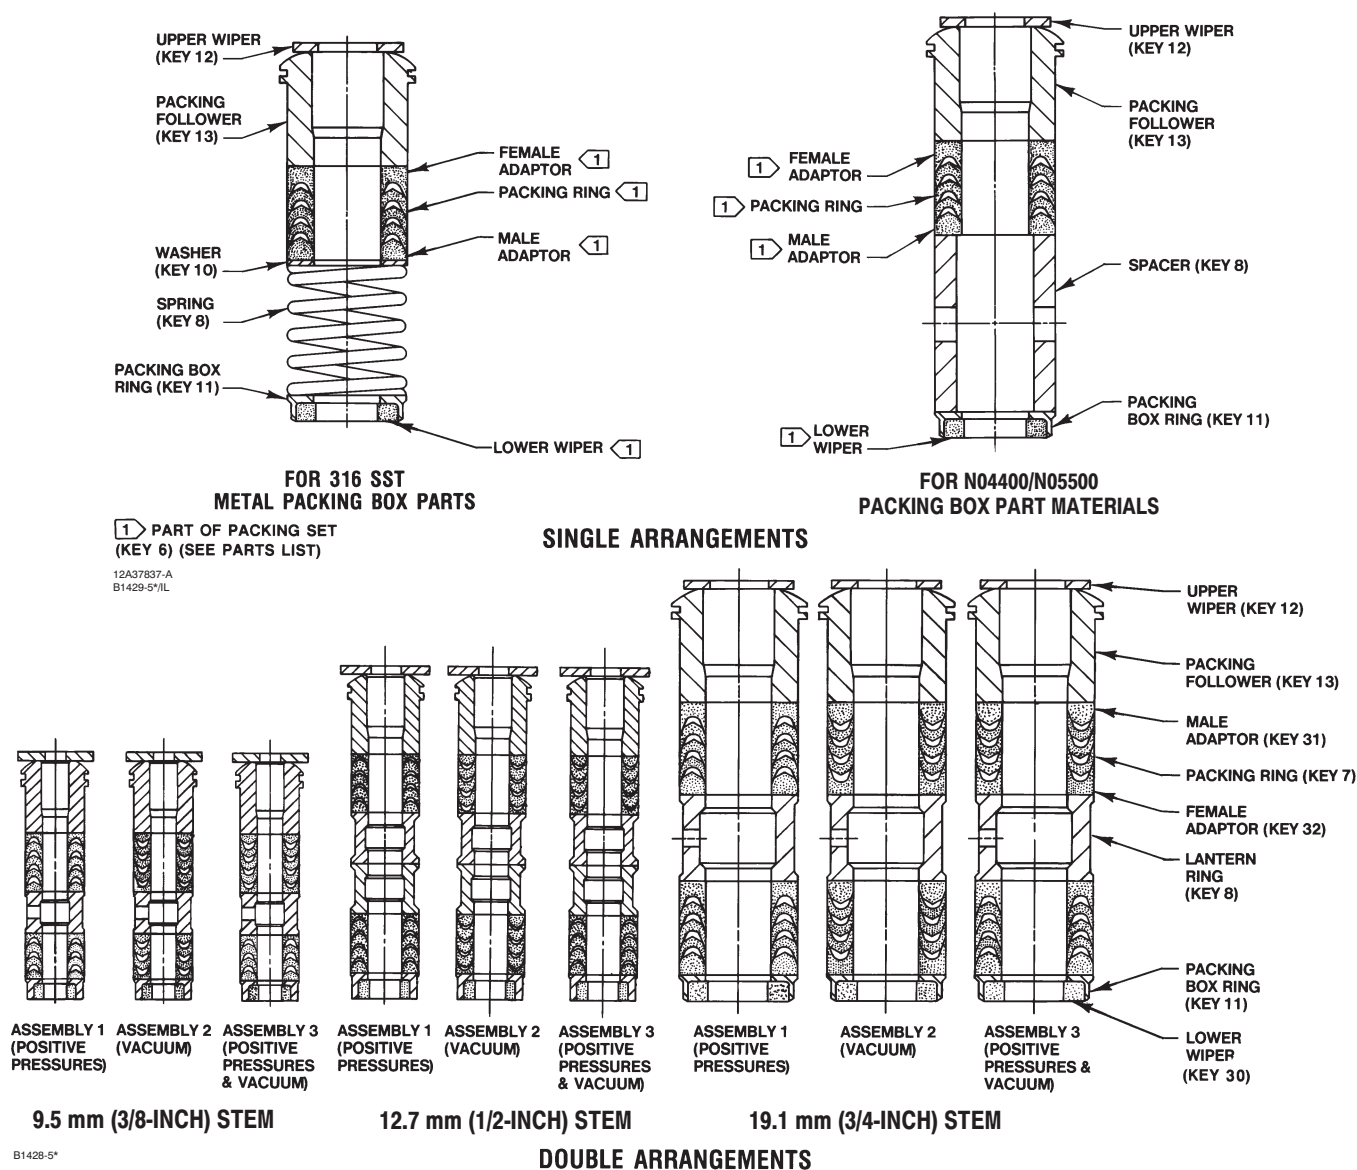
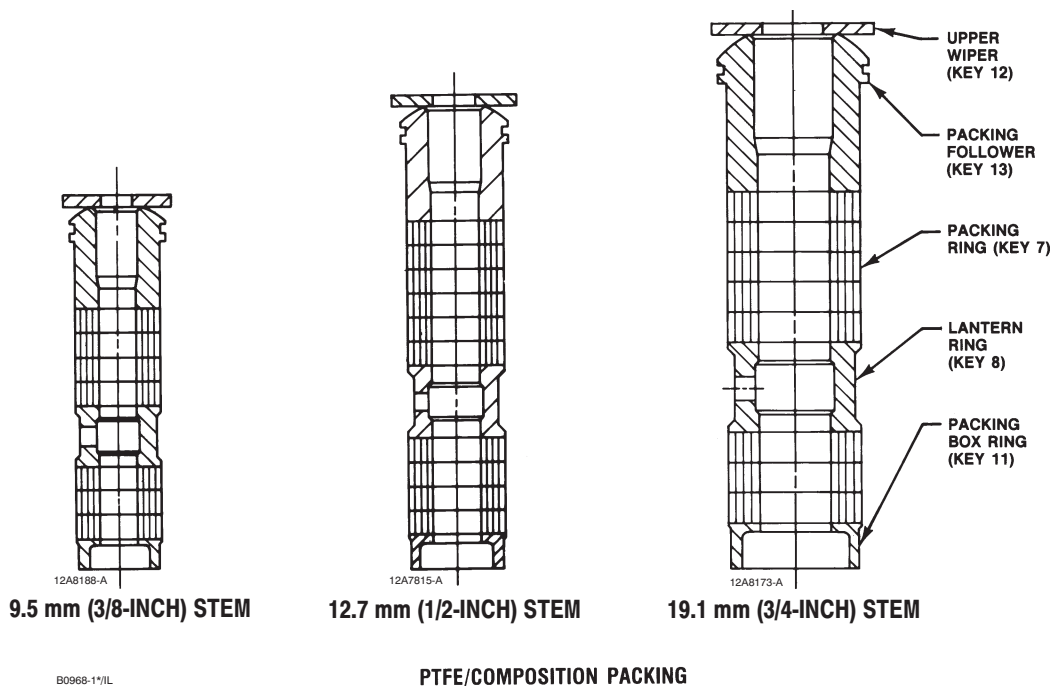
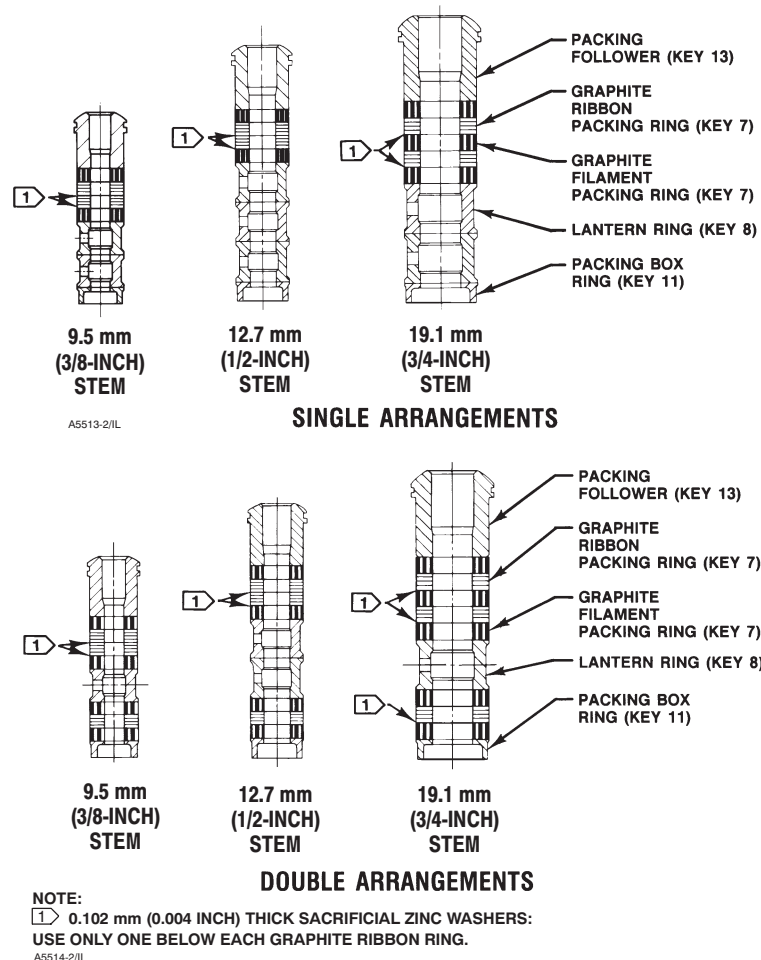

Figure 3. PTFE V-Ring Packing Arrangements for Plain and Extension Bonnets
Figure 4. PTFE/Composition Packing Arrangements for Plain and Extension Bonnets
Figure 5. Graphite Ribbon/Filament Packing Arrangements for Plain and Extension Bonnets
This section covers PTFE V-ring, PTFE/composition, and graphite/ribbon packing as used in plain and extension bonnets. Unless otherwise indicated, key numbers refer to figure 3 for PTFE V-ring packing, figure 4 for PTFE/composition packing, and figure 5 for graphite ribbon/filament packing.
For spring-loaded single PTFE V-ring packing, the spring (key 8, figure 3) maintains a sealing force on the packing. If leakage is noted around the packing follower (key 13, figure 3), check to be sure the shoulder on the packing follower is touching the bonnet. If the shoulder is not touching the bonnet, tighten the packing flange nuts (key 5, figure 11), until the shoulder is against the bonnet. If leakage cannot be stopped in this manner, proceed to the Replacing Packing procedure.
This section covers replacing packing used in plain and extension bonnets. PTFE V-ring packing is shown in figure 3, PTFE/composition packing is shown in figure 4, and graphite/ribbon packing is shown in figure 5.
12. Install new packing and the metal packing box parts according to the appropriate arrangement in figure 3, 4, or 5. If split-ring packing is being added, alternate the position of the splits to avoid a leak path. Place a smooth-edged pipe over the valve stem and gently tap each soft packing part into the packing box, being sure that air is not trapped between adjacent soft parts.